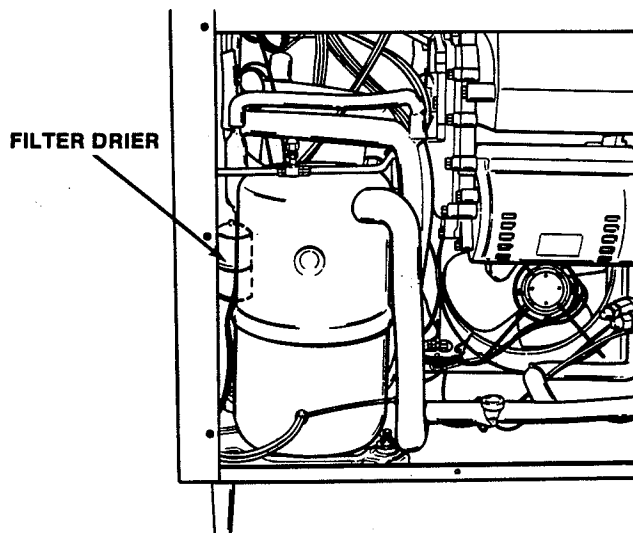

Figure 39. Filter Drier
8. Break the vacuum to (0 P.S.I.G.) with R-502 and, with an open port, replace filter drier using the appropriate brazing material (Fig. 39).